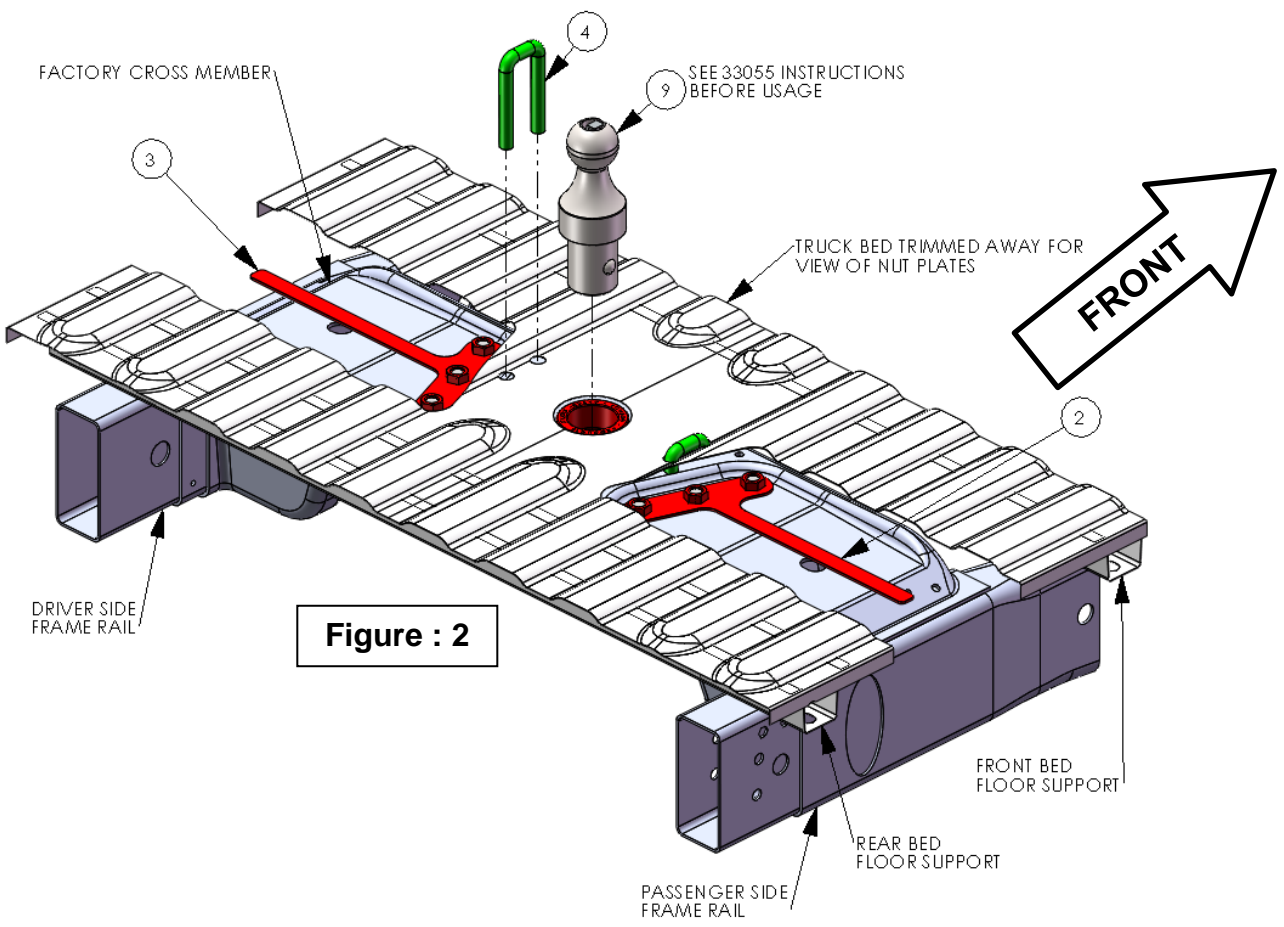

Figure : 2
- Slide correct nut plate (#2 & #3) into correct location from wheel wells on top of factory crossmember. This can be done without removal of the liners. Align nut plate bolt holes from bottom of truck with holes in the factory crossmember. (See Figure 2). **Note: Before nut plate install, run flanged head bolts (#8) into nut plates to ensure clean threading.**